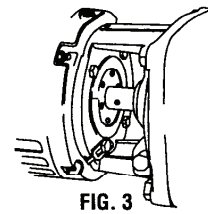

FIG. 3
5. Rotate Adjusting Screw in the opposite direction (counter-clockwise) to back the impeller off and provide clearance between it and the raceway. The proper clearance may be obtained by moving the adjusting screw approximately one half the distance between two of the spanner wrench holes as indicated by the reference marks made in Step 4 (Fig. 3).